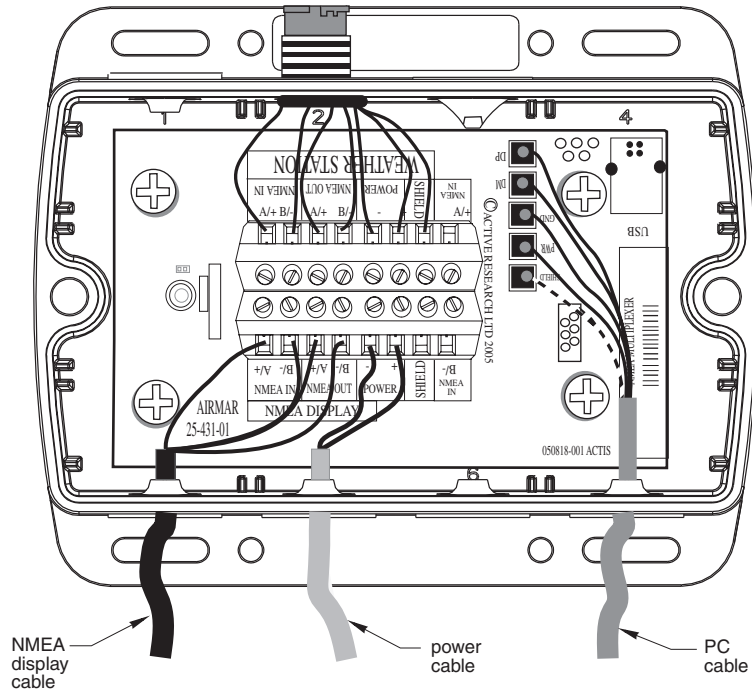

Figure 9. Wiring an NMEA display to a Combiner
5. Push approximately 200mm (8") of the cable through the grommet (see Figure 9). To ease sliding, apply alcohol to the cable jacket.